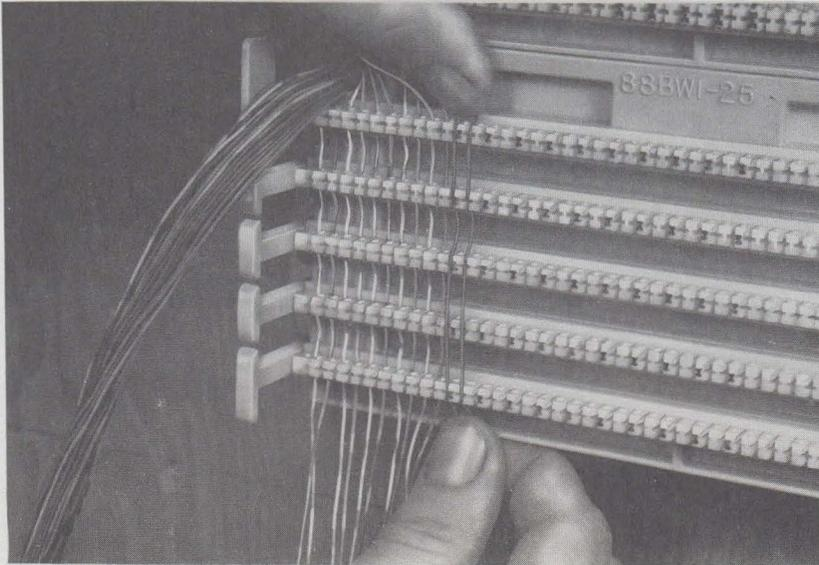

Fig. 18—Multiple Connections in Red Field
3.13 On wiring blocks used to provide key line service multiples (red field), the conductors are placed across the five index strips, again using a light finger pressure to place (Fig. 18). Conductors should not be tight.